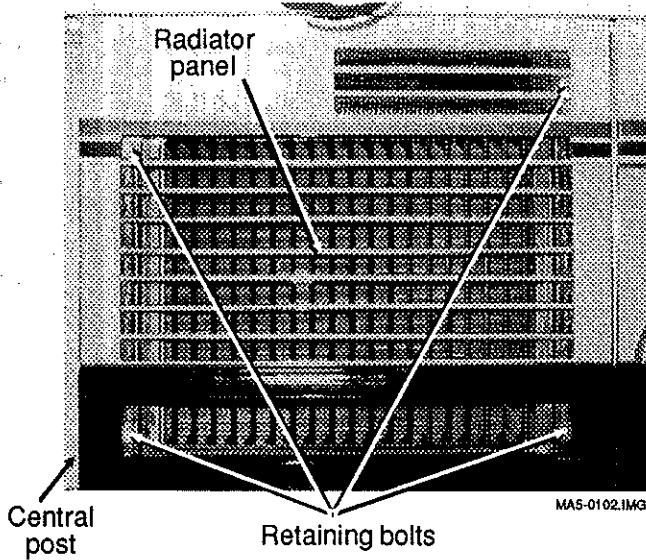

FIG. 2
10. Unscrew the four (4) retaining bolts of the radiator panel, then remove the panel (see fig. 2).
12. Remove the fasteners holding the central post adjacent to the radiator (see fig. 2).